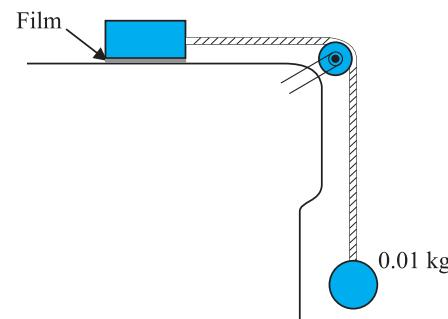

Fig. 10.15 Measurement of the coefficient of viscosity of a liquid.
► **Example 10.9** A metal block of area 0.10 m^2 is connected to a 0.010 kg mass via a string that passes over an ideal pulley (considered massless and frictionless), as in Fig. 10.15. A liquid with a film thickness of 0.30 mm is placed between the block and the table. When released the block moves to the right with a constant speed of 0.085 m s^{-1} . Find the coefficient of viscosity of the liquid.